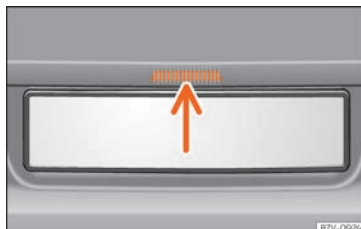

Fig. 105 Opening the boot hatch from the outside
- **OR:** press the **»» Fig. 105** boot hatch button (arrow).